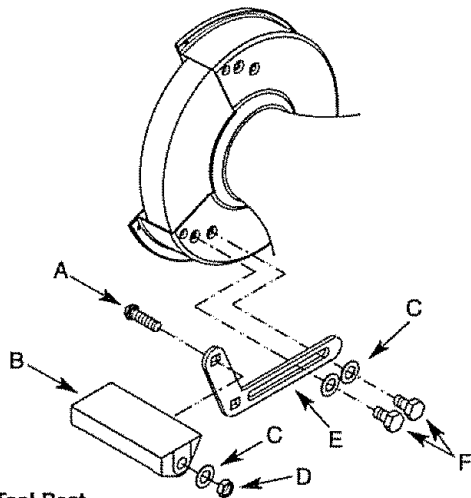

Figure 3 - Tool Rest
Parts to be assembled should be located and accounted for (See List and Figure 3).
Refer to Figure 3, page 3.
- Attach bracket (E) to wheel guard using hex bolts (F) and flat washers (C).
- Slide $\frac{1}{8}$ "-18 x 1 $\frac{1}{2}$ " carriage bolt (A) into square hole in tool rest bracket (E).
- Slide tool rest (B) onto carriage bolt from the inside of tool rest as shown in Figure 3.
- Slide $\frac{5}{16}$ " flat washer (C) and $\frac{5}{16}$ "-18 hex nut (F) onto carriage bolt.